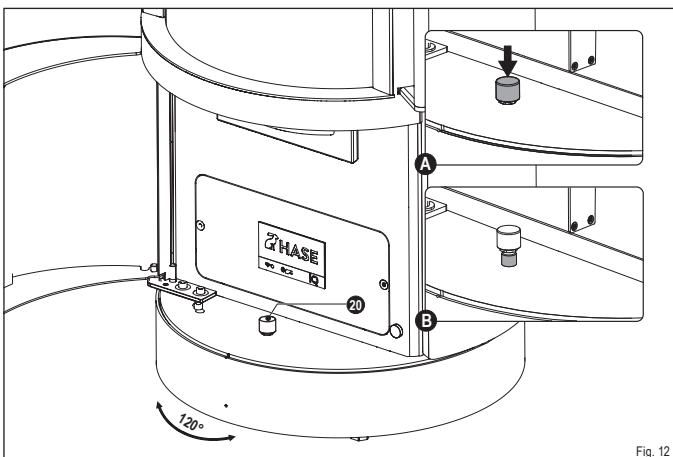

Fig. 12
On delivery, the button (18) on the rotating console is in the locked position (Fig. 12):
- **Press the button (20) to unlock (Section A).**
- ✓ **Once in the desired position, press the button (20) again to lock the rotating console again.**
The stove has a maximum rotation angle of 120 degrees (Fig. 12).